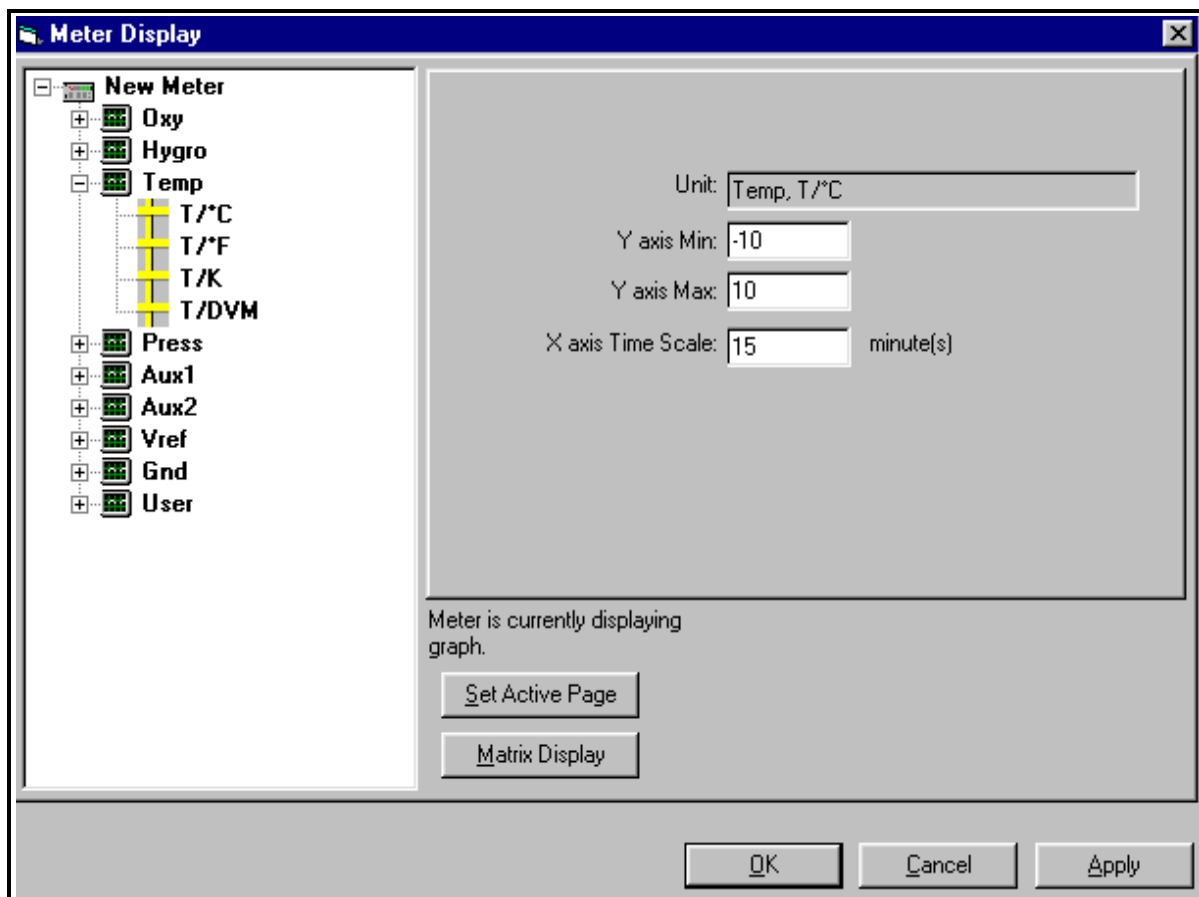

Figure 50: Graph Programming Window
3. Double-click on the desired unit, and enter the parameters for the graph, as shown in Figure 50 below.